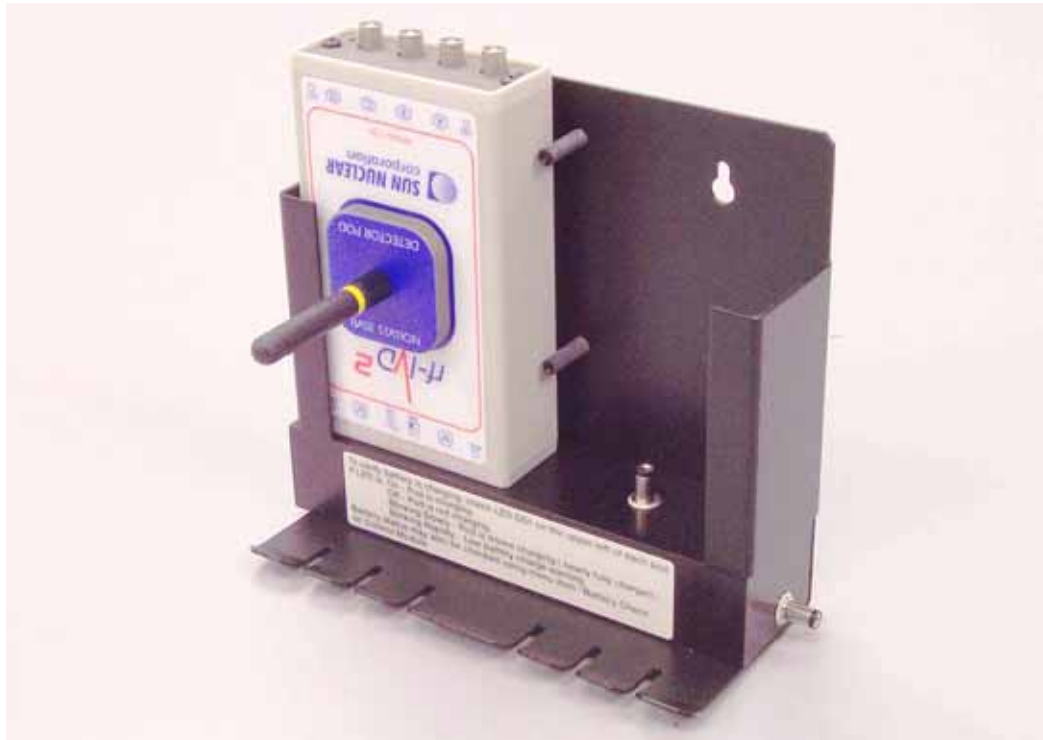

Figure 2-8. Wall bracket stores pod and diodes while charging battery
- The charging wall bracket (P/N 1133210) is mounted on the treatment room wall and contains powered mounting slots for the Base Station and the Detector Pod (Figure 2-8). DC power is supplied to the wall bracket. When the Pod is removed for daily use, it becomes battery powered. At the end of a patient session and at the end of the day, the Pod is returned to its slot in the wall bracket to be charged to full capacity overnight.